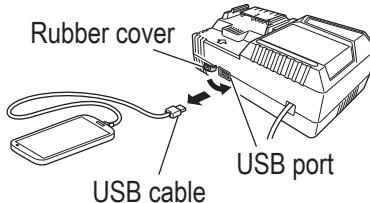

Fig. 41
- Unplug the power cord from the electrical outlet. (**Fig. 41**)